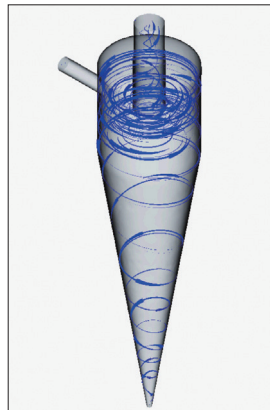

Figure 6: Streamlines
- In Figure 6, streamlines of the water are expressed with arrows. The swirl flow occurring in the separator is clearly simulated.